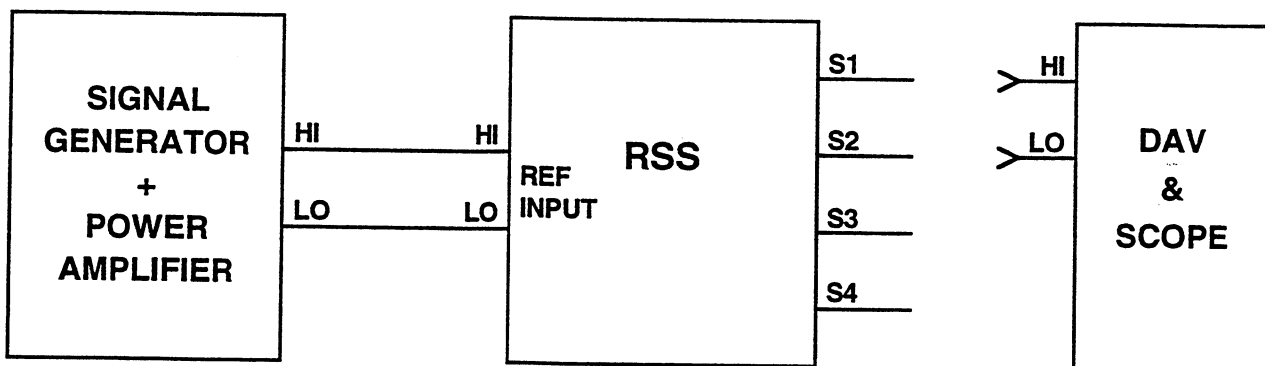

Figure 5-2. Test Setup, External Input/Output L-L Tests
1. With RSS and test equipment power off, see figure 5-2 and connect test equipment as shown. 2. Turn test equipment outputs down and turn power on. Allow test equipment to warm-up for 15 minutes.
5. Connect oscilloscope and RMS multimeter to RSS terminals S1 (LO) and S3 (HI). 6. Check for sine wave and that multimeter reading is between 2.7718 and 2.8850. 7. Connect oscilloscope and multimeter to RSS terminals S4 (LO) and S2 (HI) and check for sine wave and that multimeter reading is between 2.7718 and 2.8850.
10. Check for sine wave and that multimeter reading is between 8.1770 and 8.5108. 11. Connect oscilloscope and RMS multimeter to RSS terminals S1 (LO) and S3 (HI) and check or sine wave and that multimeter reading is between 8.1770 and 8.5108. 12. Adjust output of oscillator and power amplifier for $115 V_{RMS}$, 400 HZ .